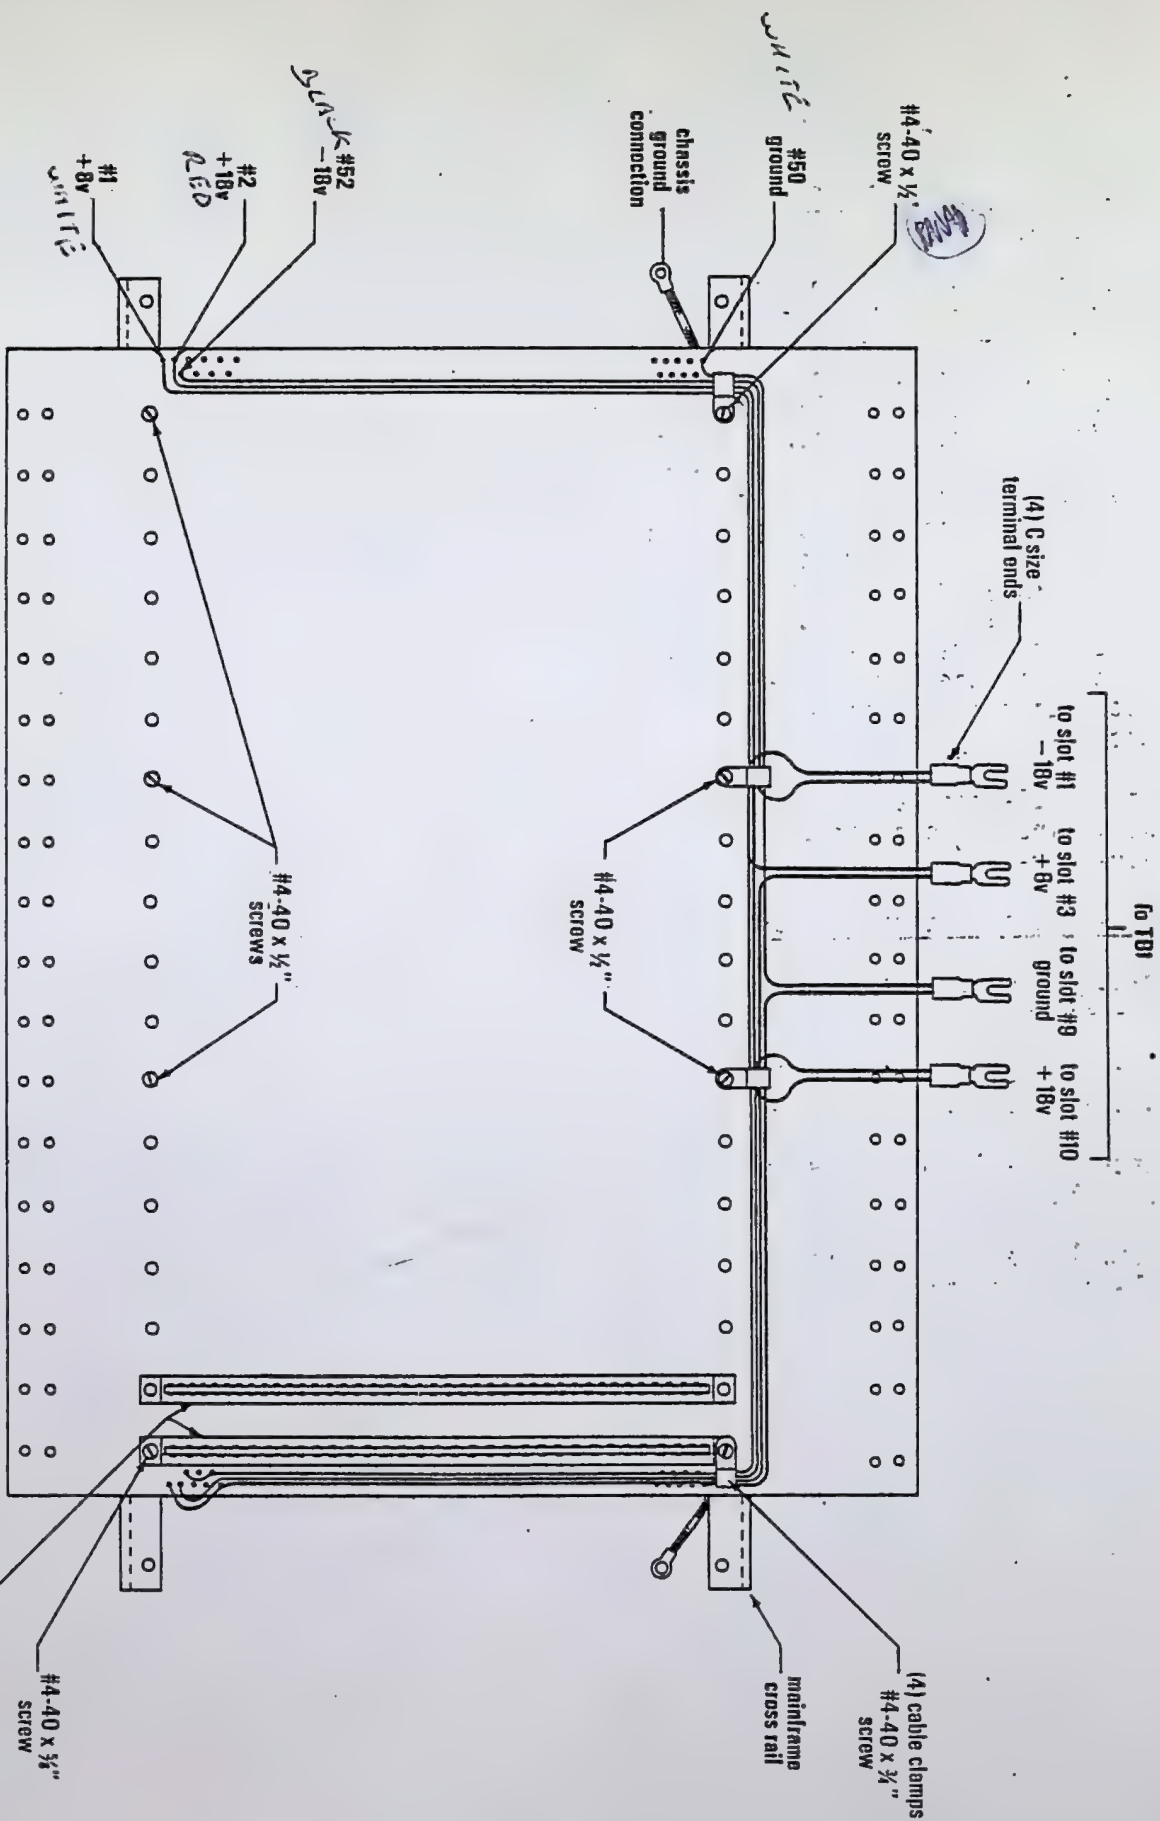

Figure 5-61. Motherboard Wire Connections
5-70. BUS WIRE CONNECTIONS (Figure 5-61)
Refer to Figure 5-61. Note that the two outside rows of holes on either side of the motherboard each have four wire connections. These are the +8v, -18v, +18v and ground lines to the power supply from the bus. The wire connections are made by inserting the end of the wire from the top side of the motherboard and soldering it to the foil (bottom) side. On the foil side of the motherboard, hole #1 and hole #50 are marked on each side. Complete the wire connections according to the following instructions:
(Figures 5-61 and 5-62)
At this time, the edge connectors, cable clamps, mainframe cross rails, and card guides will all be assembled onto the motherboard according to Figures 5-61 and 5-62 and the following instructions.
1. Position the two 100-pin edge connectors on the motherboard as shown in Figure 5-61. Carefully insert the connector pins into their respective holes. If necessary, guide some of the pins with the tip of a small screwdriver. Be sure that the connector is tight against the board and that all 100 pins have been inserted. Solder each connector pin to the foil pattern on the bottom of the board.
3. Remove the two cross rails from the mainframe. Mount the cross rails to the bottom of the motherboard using eight screws, positioned as shown in Figure 5-61. Attach cable clamps to the four back mounting screws and run the bus wires through the cable clamps before tightening the screws down.
4. Match up the four pairs of bus wires at the back of the motherboard as shown in Figure 5-61. Attach a size C terminal end to each pair. Make sure the correct wires have been paired off: